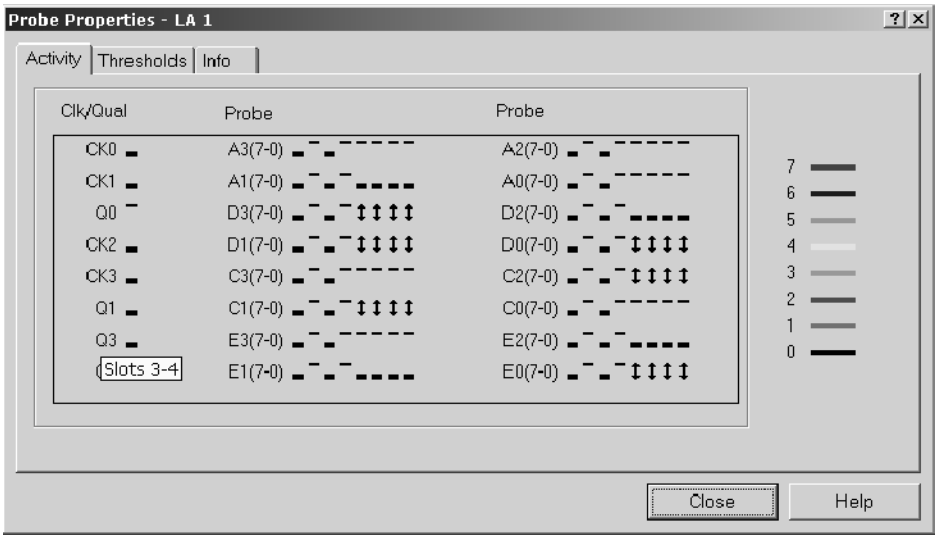

**Figure 3-21: Activity Indicators dialog box**
**Activity Indicators** Use the Activity tab located in the Probe Properties dialog box (click the Probes button located in the LA Setup window) to show the real-time signal activity at the LA module probe tip without having to acquire data. The activity symbols indicate whether the signals at the probe tip are high, low, or changing. See Figure 3-21.